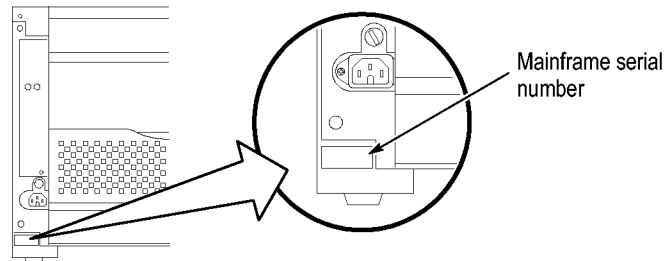

Figure 12: Mainframe serial number location
2. Get the serial number of the TLA720/721/7XM mainframe that you are upgrading. It is located on a small white label below the power cord. (See Figure 12.)